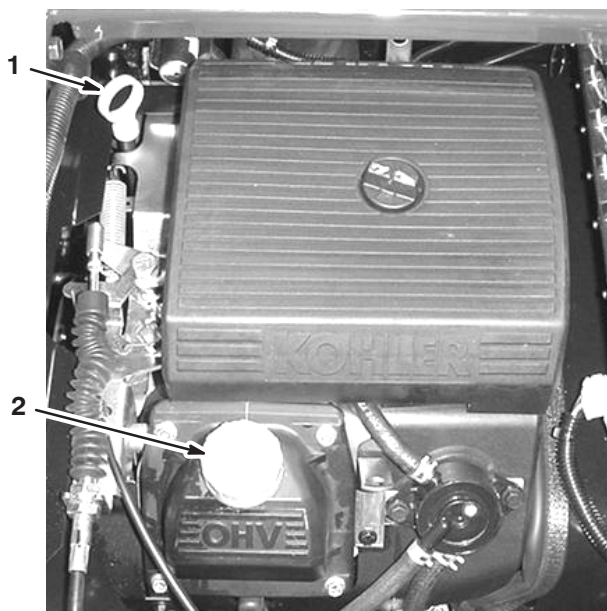

Figure 5
2. Remove the dipstick and wipe it with a clean rag (Fig. 5). Insert the dipstick into the tube and make sure it is seated fully. Remove the dipstick and check the oil level.
3. If the oil level is low, remove the filler cap from the valve cover (Fig. 5) and pour oil into the opening until the oil level is up to the Full mark on the dipstick; refer to Servicing Engine Oil, page 33, for the proper oil type and viscosity. Add the oil slowly and check the level often during this process. **Do not overfill.**